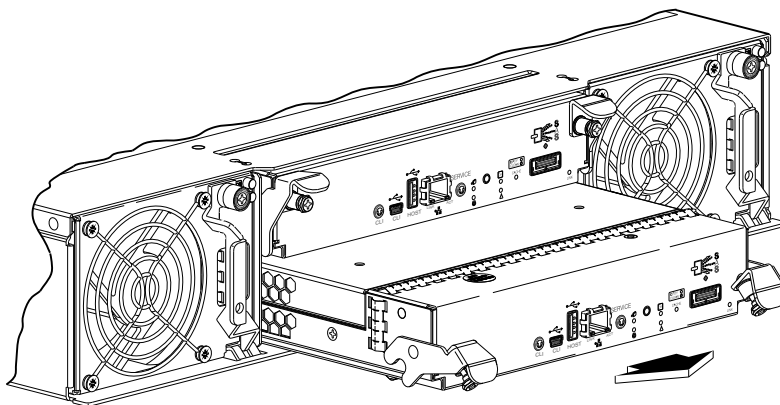

Figure 19 Removing a controller module
6. Pull the controller module straight out of the enclosure (see Figure 19).